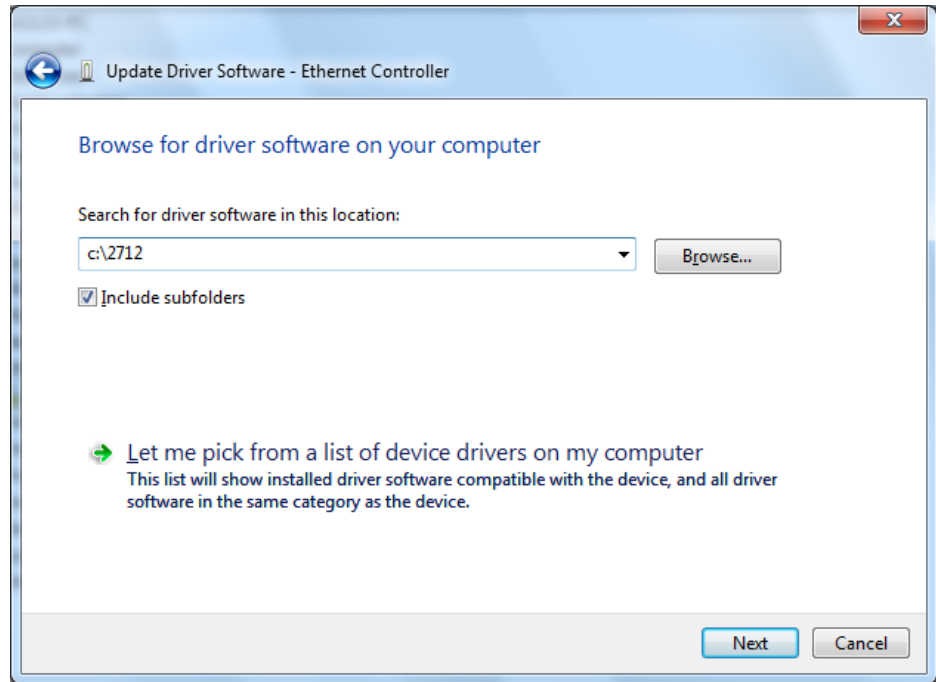

Figure 27. Update Driver Software: Ethernet Controller: Browse
The Update Driver Software - Ethernet Controller: Browse for Driver Software Window is displayed. See Figure 27 on page 53.
15. Click **Browse** to search your computer for the location of the driver software. See Figure 27.